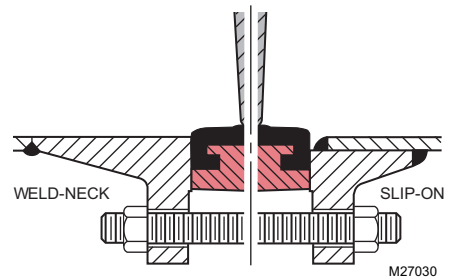

Fig. 18. Flange welding techniques
7. Iron valves are mechanically compatible with standard ANSI Class 150-flat faced or raised-face steel flanges, or with ANSI Class 125 cast iron flanges. Either neck-weld or slip-on flanges may be used; however, *Type C stub-end flanges are not recommended*. See Fig. 18.